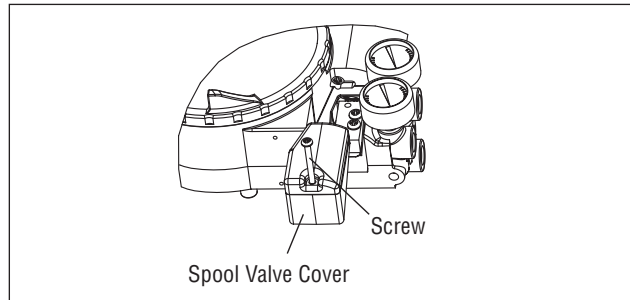

Figure 15: Spool Valve Cover Assembly
4. Remove the spool valve cover by removing the screw and sliding the cover assembly backwards until the tab is clear of the slot (Figure 15). The sheet metal cap, hydrophobic filter and O-ring should be removed with the spool valve cover. It is not necessary to take these parts out of the spool valve cover.
Install spool valve cover screw and tighten securely (see Figure 15).
To replace the spool valve, refer to Figures 15, 17 and 28 and proceed as outlined below. The following tools are required:
4. Remove the spool valve block by removing the two Phillips-head screws and carefully sliding the block off the spool (Figure 15).
8. Carefully slide the block over the spool, using the machined surface of the housing base as a register (Figure 15). Slide the block toward the driver module until the two retaining holes line up with the threaded holes in the base.
10. Slide the spool valve cover assembly over the spool valve until the tang engages into the housing slot. Install the spool valve cover screw and tighten securely (see Figure 15).
To replace the filter in the spool valve cover, refer to Figures 15 and 20 and proceed as outlined below. The following tools are required: